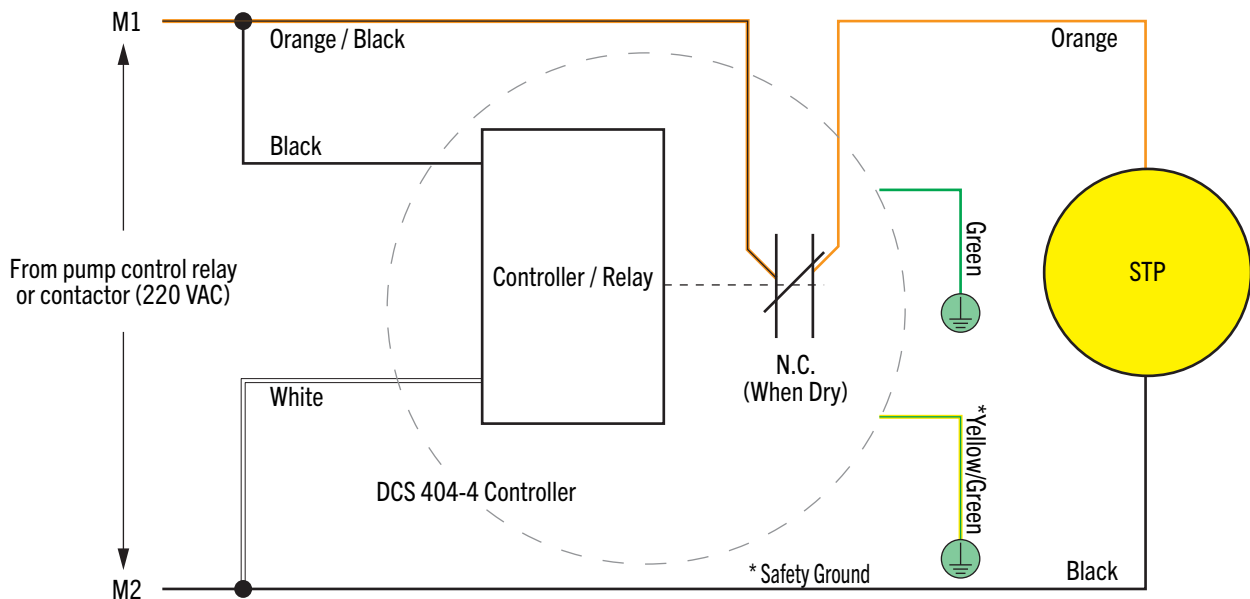
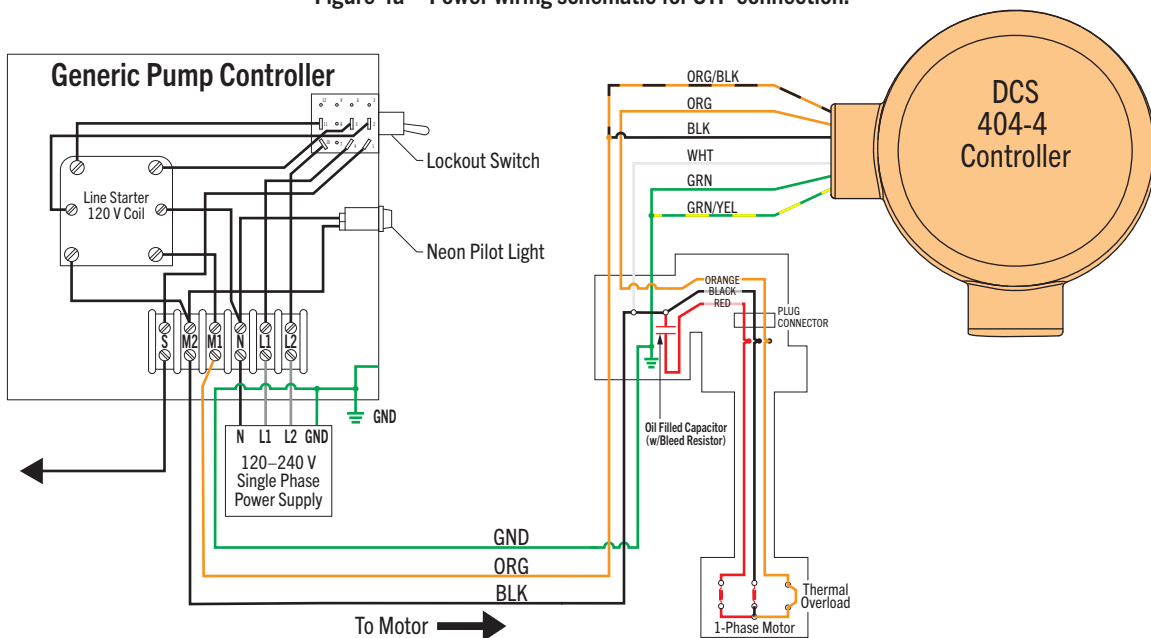

Figure 4a – Power wiring schematic for STP connection.
Figure 4b – Power wiring example for STP connection.
4. Remove the STP junction box cover / plug. Make sure the STP junction box has enough room to accommodate the additional controller wires (see Table 3.4). Thread the six controller power wires from the power port through the conduit fittings and plumb the conduit fittings to the controller. Connect the controller power wires to the STP wiring as shown in Figure 4a (Figure 4b is for example only).